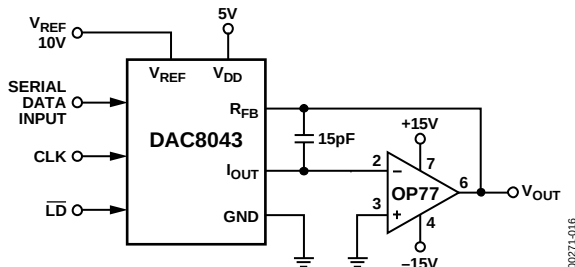
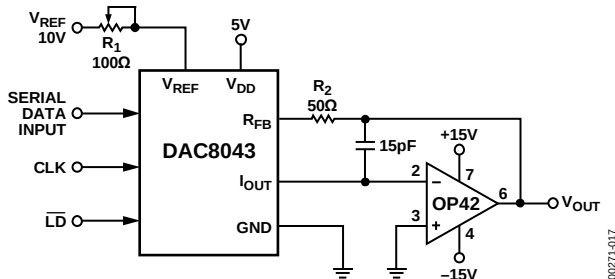
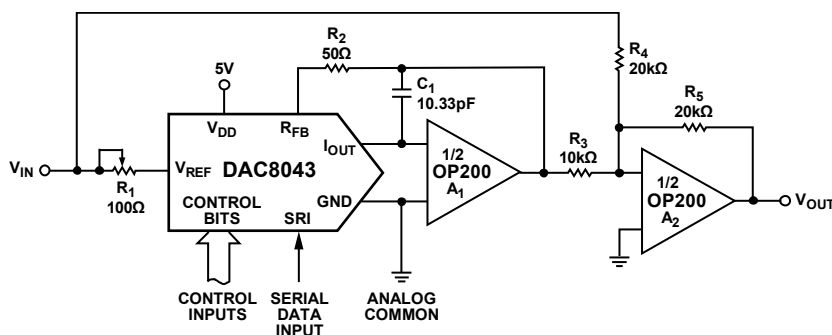

Figure 16. Unipolar Operation with High Accuracy Op Amp (2-Quadrant)
Figure 17. Unipolar Operation with Fast Op Amp and Gain Error Trimming (2-Quadrant)
Figure 19. Bipolar Operation (4-Quadrant, Offset Binary)
1. Phase compensation (see Figure 16 and Figure 17).
In most applications, linearity depends upon the potential of the I_{OUT} and GND pins being equal to each other. In most applications, the DAC is connected to an external op amp with its noninverting input tied to ground (see Figure 16 and Figure 17). The amplifier selected should have a low input bias current and low drift over temperature. The amplifier's input offset voltage should be nulled to less than 200 μ V (less than 10% of 1 LSB).
The circuits shown in Figure 16 and Figure 17 may be used with an ac or dc reference voltage. The output of the circuit ranges between 0 V and approximately $-V_{REF}$ (4095/4096), depending upon the digital input code. The relationship between the digital input and the analog output is shown in Table 6. The limiting parameters for the V_{REF} range are the maximum input voltage range of the op amp or ± 25 V, whichever is lowest.
Gain error may be trimmed by adjusting R_1 , as shown in Figure 17. The DAC register must first be loaded with all 1s. R_1 may then be adjusted until $V_{OUT} = -V_{REF}$ (4095/4096). In the case of an adjustable V_{REF} , R_1 and R_2 may be omitted, with V_{REF} adjusted to yield the desired full-scale output.
¹ Nominal full scale for Figure 16 and Figure 17 circuits is given by
² Nominal LSB magnitude for Figure 16 and Figure 17 circuits is given by
Figure 19 details a suggested circuit for bipolar, or offset binary, operation. Table 7 shows the digital input to analog output relationship. The circuit uses offset binary coding. Twos complement code can be converted to offset binary by software inversion of the MSB or by the addition of an external inverter to the MSB input.
MSB LSB	(V _{OUT} as Shown in Figure 19)
¹ Nominal full scale for Figure 19 circuits is given by
² Nominal LSB magnitude for Figure 19 circuits is given by
The transfer function for the DAC8043 connected in the multiplying mode, as shown in Figure 16, Figure 17, and Figure 19, is